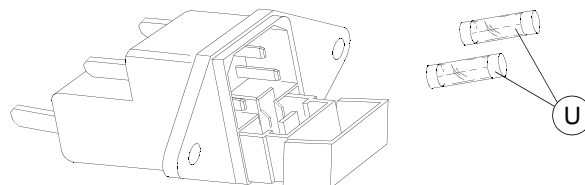

Fig. 15
- 2) remove the fuses box placed below the key-cutting machine socket (fig.15).
- 3) replace the fuses (U).